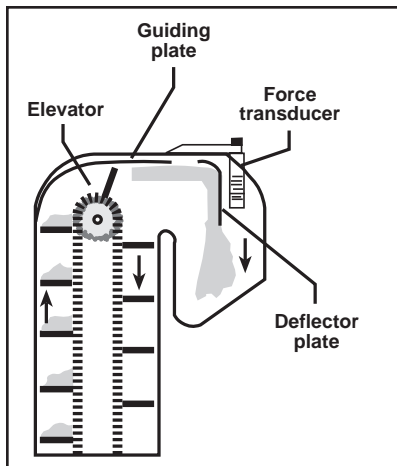

Figure 3. Mass flow sensor
A sensor in the stream of clean grain measures the mass flow. Yield sensors measure (1) the force of the grain hitting a plate, (2) the attenuation of light passing through the grain stream, (3) the weight of the grain collected for a period of time, or (4) the volume of grain passing through a paddle. The most common method is to measure the force of the grain striking a plate located at the top of the clean grain elevator (Figure 3). The accuracy depends on the elevator speed, the type of crop and the moisture of the grain.